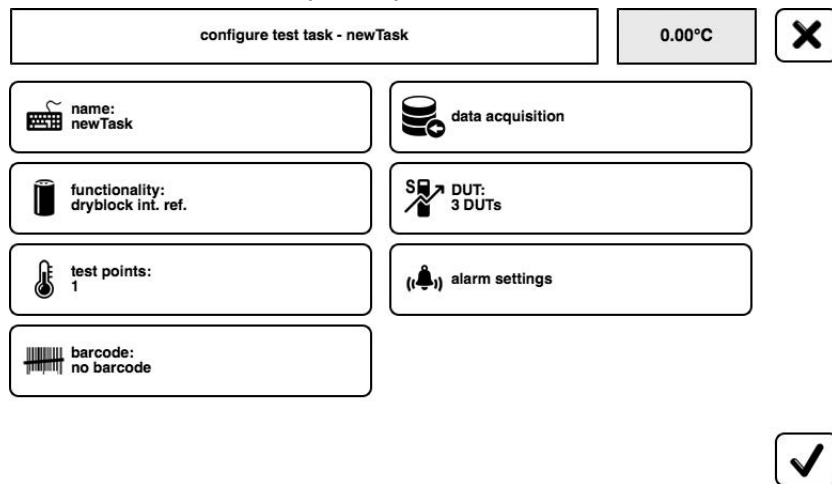

Figure 20: Configure Test Task Window
1. In the “Configure Test Task” window, see Figure 20, tap the “Name”  icon.
1. In the “Configure Test Task” window, see Figure 20, tap the “Data Acquisition”  icon.
1. In the “Configure Test Task” window, see Figure 20, tap the “Functionality”  icon.
1. In the “Configure Test Task” window, see Figure 20, tap the “DUT”  icon.
1. In the “Configure Test Task” window, see Figure 20, tap the “Test Points”  icon.